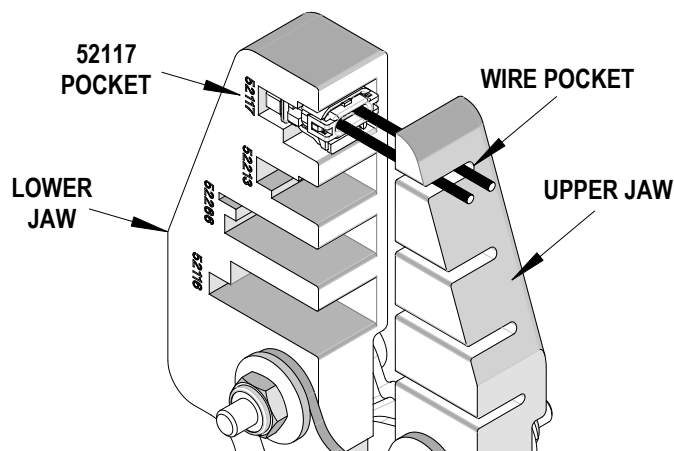

Figure 4
3. With the tool in the open position load the 52117 housing assembly with the crimp terminals and wires into the 52117 pocket. See Figure 4. The housing pocket is marked with the housing assembly product series.